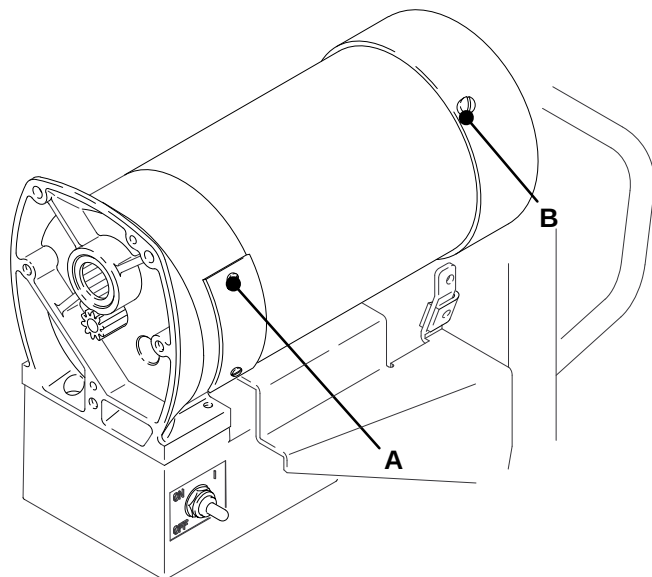

Fig. 12 02991
Remove the motor brush inspection covers (A). See Fig. 12.
Remove the fan cover (B). See Fig.12.